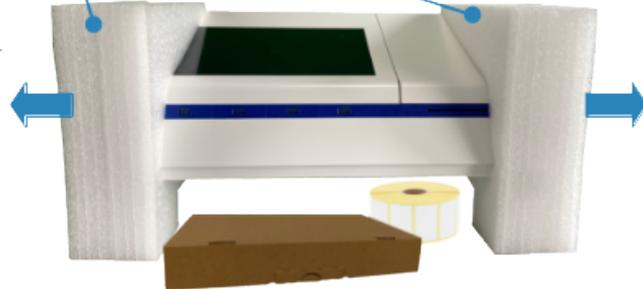

Figure 1: Unpacking
2. Remove the front and rear transport protection sponges as indicated in Figure 1: Unpacking number ③.